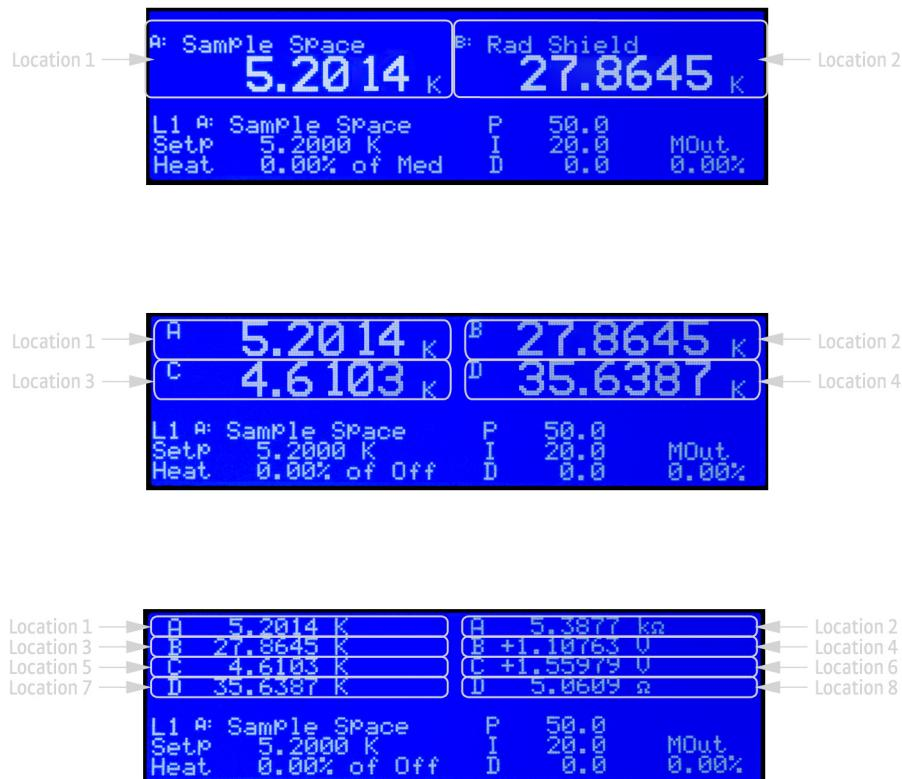

FIGURE 4-5 Top to bottom: Model 336 screen images showing 2, 4 and 8 display locations
- *Locations:* depending on the Number of Displays parameter, there can be anywhere from two to eight display locations for displaying sensor readings. The placement of a given display location on the front panel LCD depends on the Number of Displays setting (FIGURE 4-5).